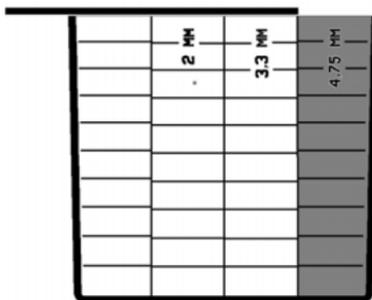

Figure 6.5 – grain sizer filling
- Fill the compartment whose sieve has the largest mesh and keep the other compartments closed with the cover (Figure 6.5);